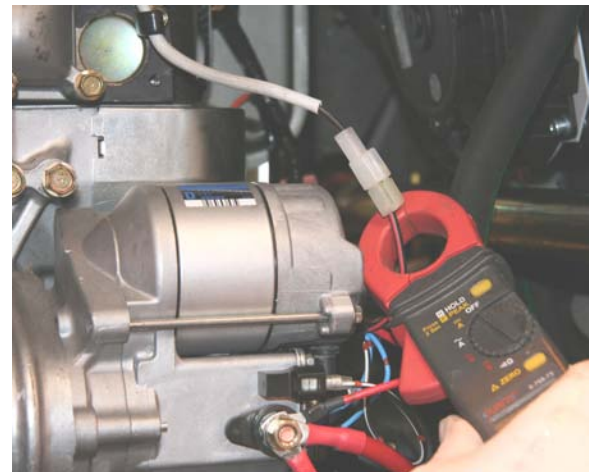

Fig 4-3 Clamp meter current check
1. Connect clamp meter to glow plug supply (wire colour = black with red stripes), as shown in *Fig 4-3*, to measure glow plug current.